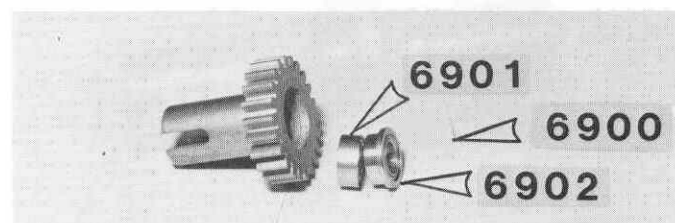

Fig. 37
□ **Fig. 37** If you have the ball bearing kit, install the small unflanged bearing #6901 first and then the #6902 flanged bearing.